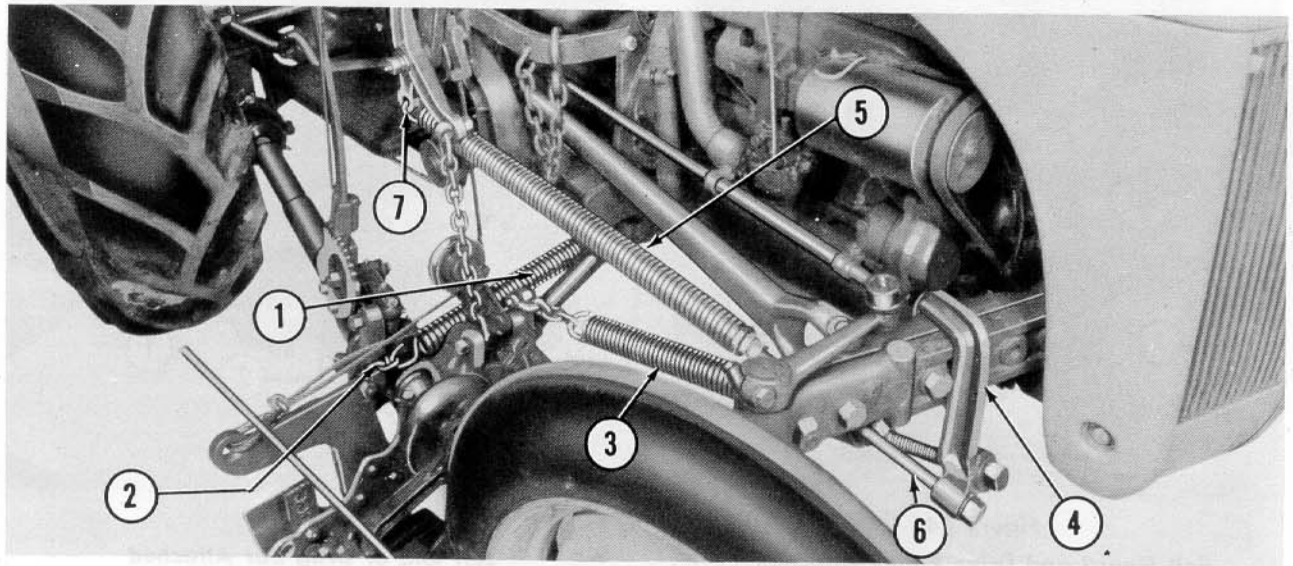

Figure 16
29. Attach drag bar balance spring (1), Figure 16, to second link of chain (2) on inner shoe elevating lever. Raise outer end of cutter bar to facilitate attachment of spring. The open end of the spring hook should face to rear of tractor. Tension on spring to be adjusted later.
30. Attach pull spring (3), Figure 16, to tractor front axle and to chain on inner shoe casting as follows:
- a. Hook axle clamp (4) on right front axle and screw tension adjusting rod out of spring sufficiently to permit hooking free end of spring to short chain on inner shoe casting. Open end of spring hook should face toward tractor.
31. Attach front balance spring (5), Figure 16, to arm on curb lift assembly as follows:
- a. Remove tension adjusting rod (6) from spring.
- b. Hook spring in "eye" (7), Figure 16, on curb lift. Spring hook should face inward.
- c. Insert threaded rod through outside hole in base of the axle clamp (4) and into nut in forward end of spring. Draw spring up on rod. See Figure 16.